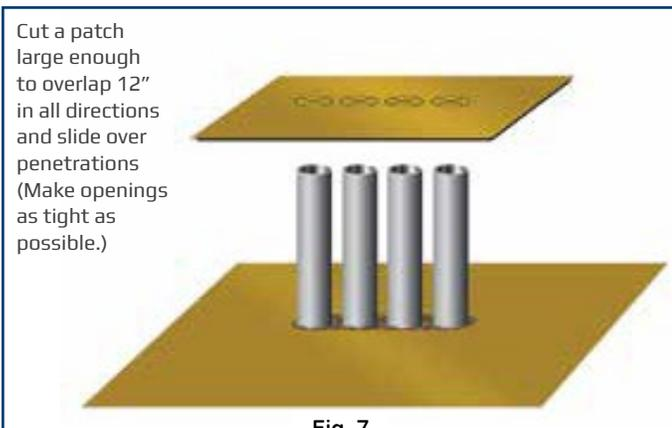

Fig. 7
- A. Cut a patch large enough to overlap 12" in all directions (Fig. 7) of penetrations.